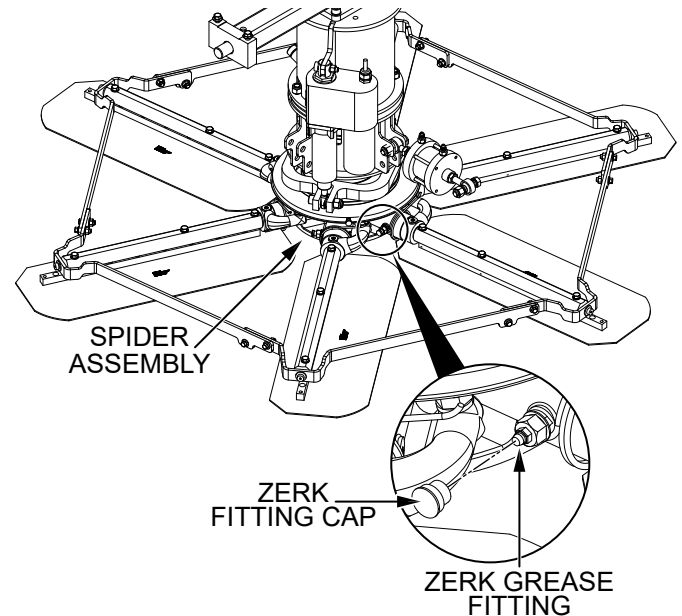

Figure 43. Spider Lubrication
1. Locate one of the **Zerk grease fittings** on either **spider assembly** (Figure 43). Remove the **Zerk fitting cap** and set it aside.